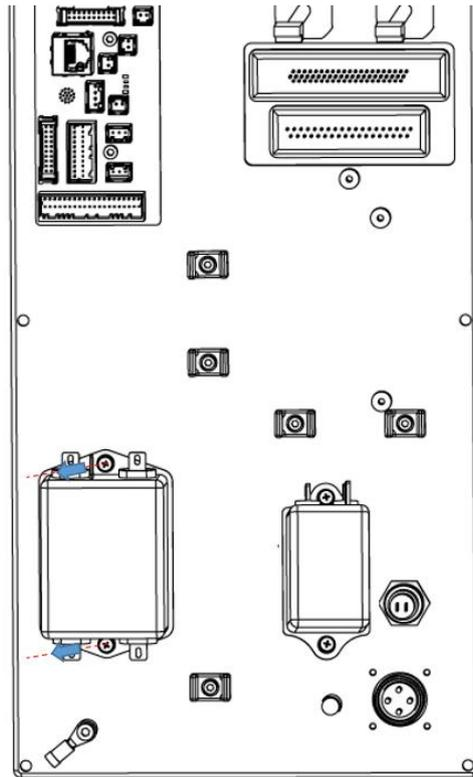

Figure 5-16 Removal of fastening screws
Step 3 Use the cross screwdriver to unscrew the fastening screws from the filter and remove them, as shown in Figure 5-16.